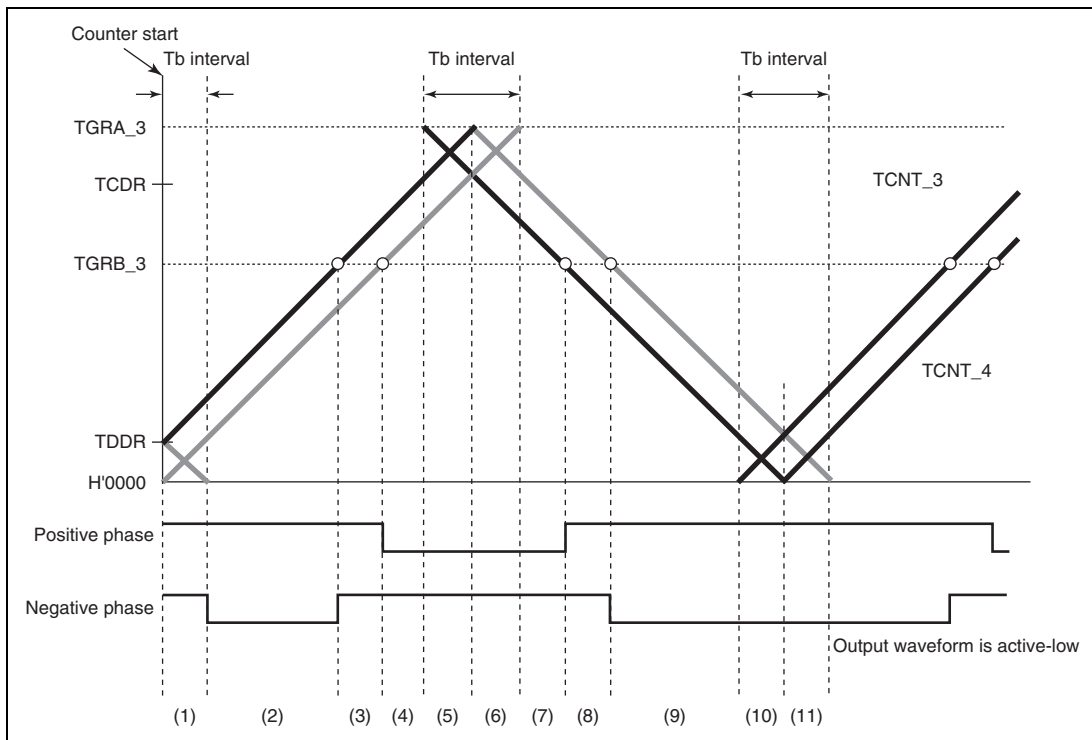
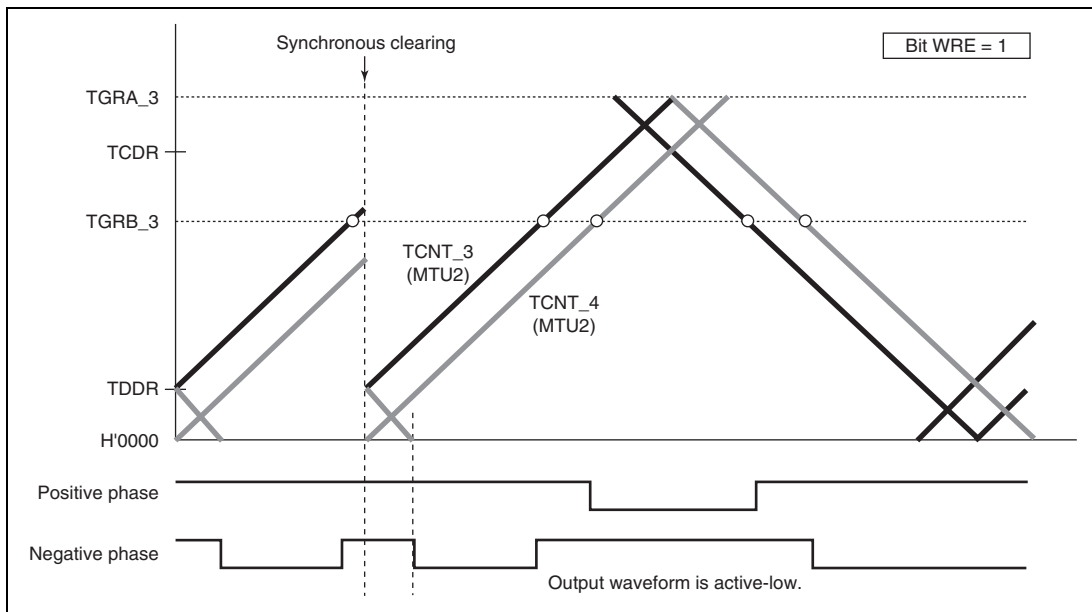

Figure 10.56 Timing for Synchronous Counter Clearing
Figure 10.58 Example of Synchronous Clearing in Dead Time during Up-Counting (Timing (3) in Figure 10.56; Bit WRE of TWCR in MTU2 Is 1)
Initial output suppression is applicable only when synchronous clearing occurs in the T_b interval at the trough as indicated by (10) or (11) in figure 10.56. When synchronous clearing occurs outside that interval, the initial value specified by the OLS bits in TOCR is output. Even in the T_b interval at the trough, if synchronous clearing occurs in the initial value output period (indicated by (1) in figure 10.56) immediately after the counters start operation, initial value output is not suppressed.
Figures 10.58 to 10.61 show examples of output waveform control in which the MTU2 operates in complementary PWM mode and synchronous counter clearing is generated while the WRE bit in TWCR is set to 1. In the examples shown in figures 10.58 to 10.61, synchronous counter clearing occurs at timing (3), (6), (8), and (11) shown in figure 10.56, respectively.
(Timing (11) in Figure 10.56; Bit WRE of TWCR Is 1)**
Figures 10.64 to 10.67 show examples of operation in which the MTU2S operates in complementary PWM mode and MTU2–MTU2S synchronous counter clearing is suppressed by setting the SCC bit in TWCR in the MTU2S to 1. In the examples shown in figures 10.64 to 10.67, synchronous counter clearing occurs at timing (3), (6), (8), and (11) shown in figure 10.56, respectively.
(Timing (6) in Figure 10.56; Bit WRE Is 1 and Bit SCC Is 1 in TWCR of MTU2S)**